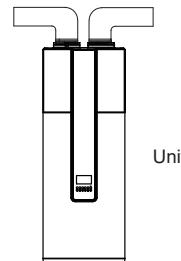

Fig.3-13
- In case of rain entering to internal components of the unit, the component might be damaged or causing physical danger. (Fig.3-13)
- In terms of the unit connect with duct reaching to outdoor, a reliable water-resistant measure must be conducted on the duct, to prevent water from dropping into internal of the unit. (Fig.3-13)